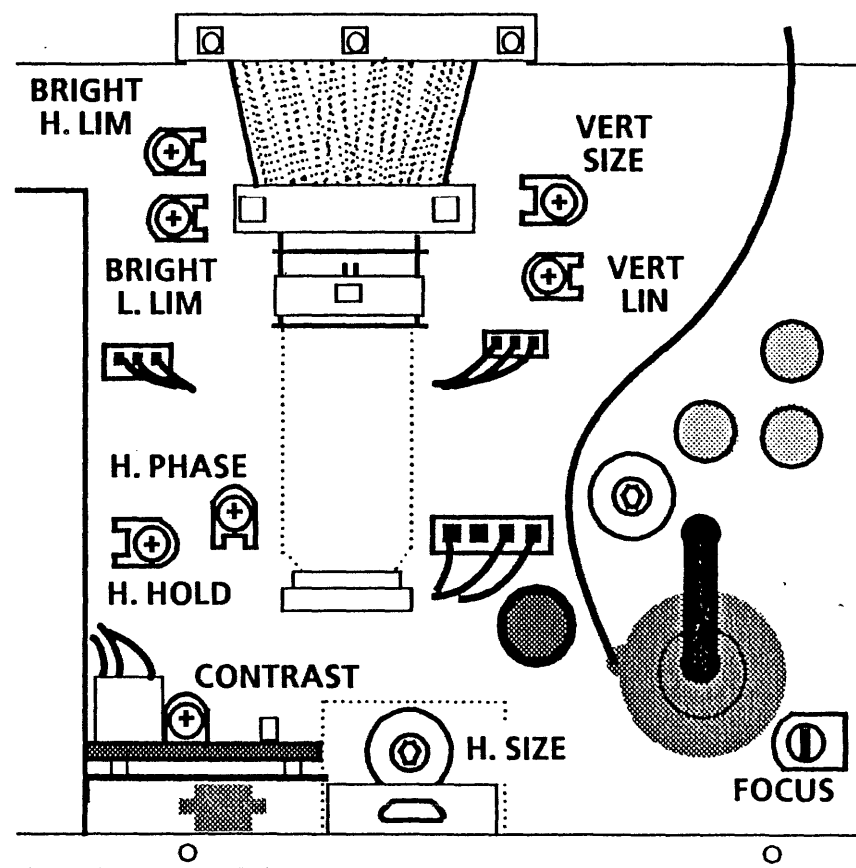

Figure 4-19 15" Display PWBA Adjustment Locations
- f. With the operator brightness control set to minimum brightness, adjust **BRIGHT L. LIM** to the specifications in Step b. (Figure 4-19)
- g. With the operator brightness control set to maximum brightness, adjust **BRIGHT H. LIM** to the specifications in Step d. (Figure 4-19)
- b. Adjust the **CONTRAST (R505)** pot for optimum viewing. (Figure 4-19)
- e. Adjust the **FOCUS** pot (R707) for optimum viewing. (Figure 4-19)
- c. Adjust the **VERT LIN** control for approximately the same size characters in the top and bottom rows. (Figure 4-19)
- c. Adjust the H SIZE coil to obtain correct display width. (Figure 4-19)
- c. Adjust **VERT SIZE** to obtain correct display height. (Figure 4-19)